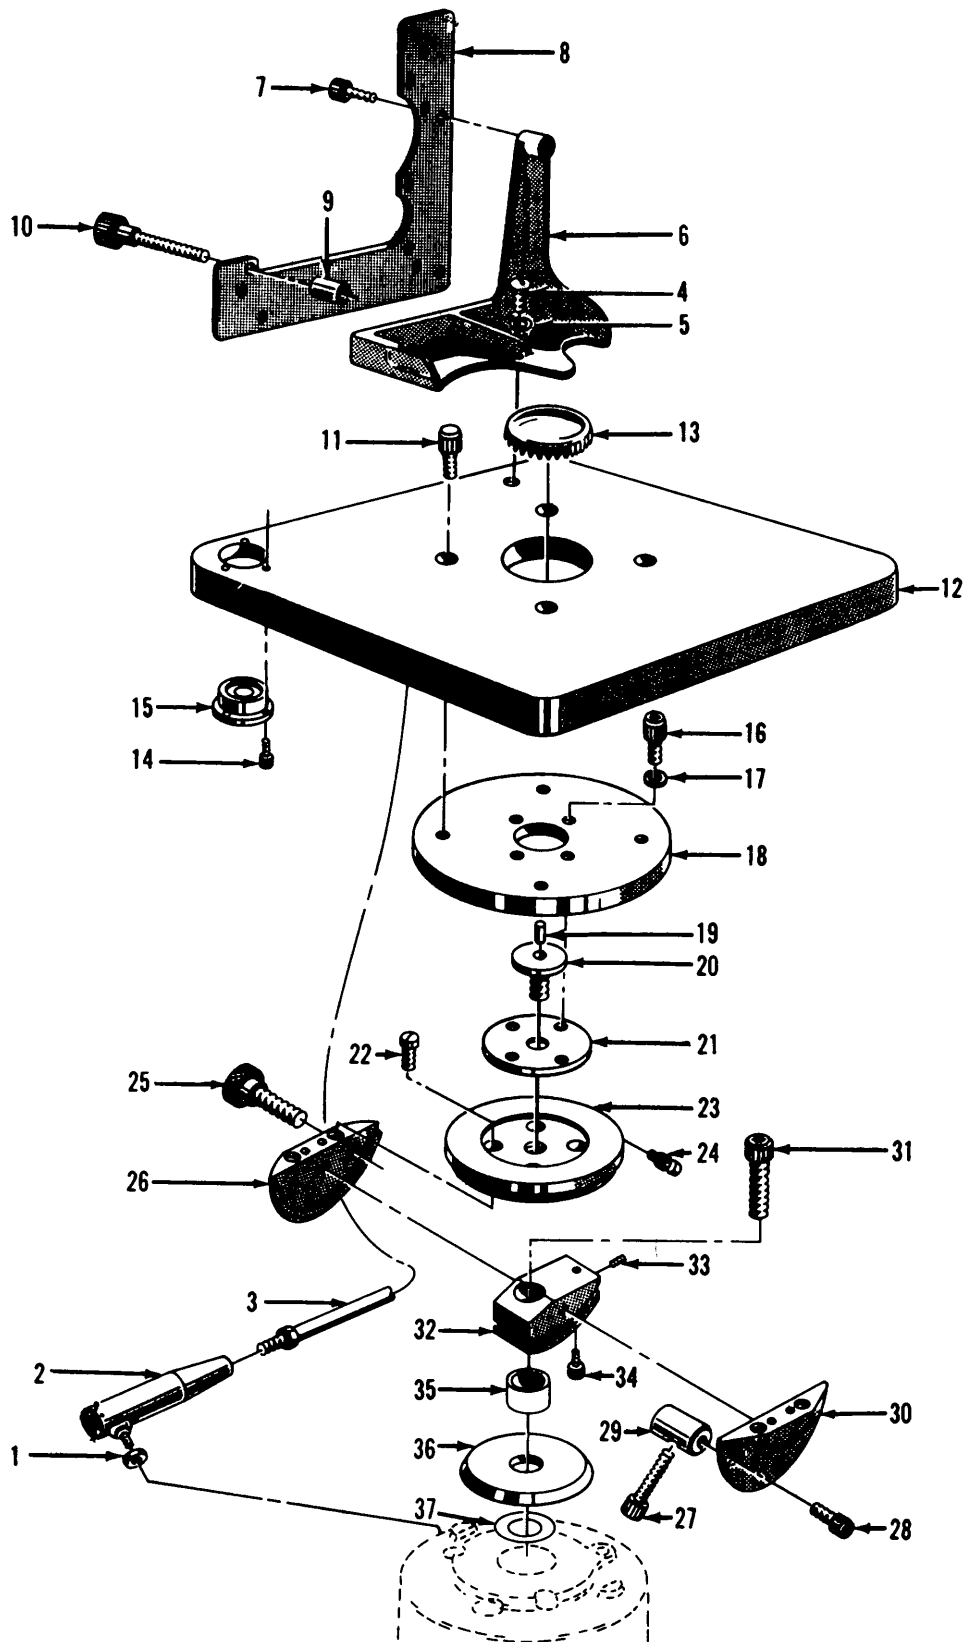

Figure 9. Exploded view of table and head assembly .
(1) Remove screws (4, fig. 9) and washers (5) securing adapter (6) to table. Remove adapter.
(2) Remove four socket head screws (11) securing table (12) to head. Remove table.
(3) Remove and disassemble head assembly and table using index number sequence as given in figure 9 for guidance.
**Caution: Be certain to remove set screw (19) before attempting to remove table retaining screw (20).**